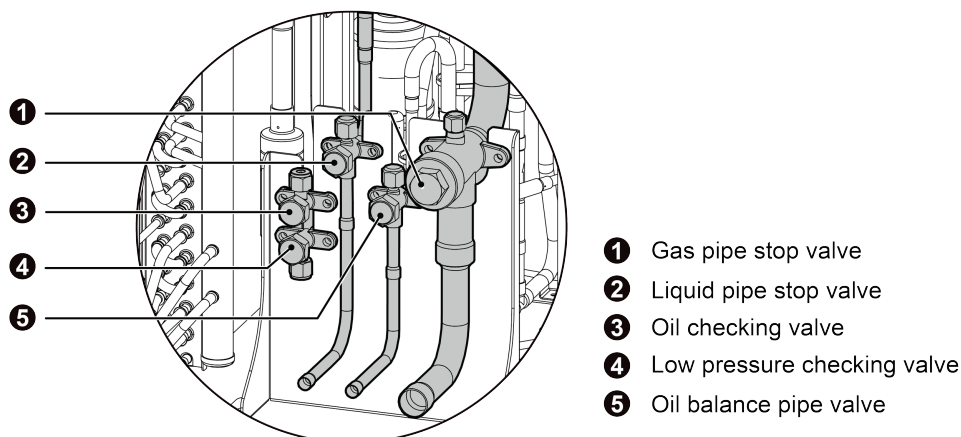

Fig.4.4.2
- (2) When there are more than 2 outdoor units, air purging from the nozzle located on the oil balance valve. Confirm outdoor oil balance valves are closed See Fig.4.4.2.